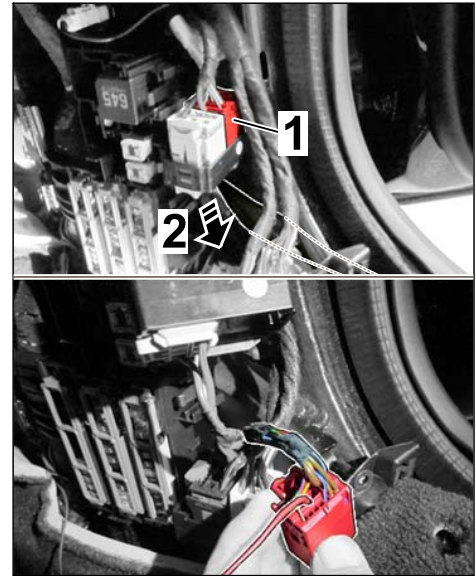

Figure 7
- 3.3 Plug power supply line - **red cable** - at the **red** connector housing connection point for the door wire harness on the connector side coming from the vehicle into ⇒ *Figure 7 -1-pin 16*. Release connector and guide pin into the connector housing until it locks with an audible click. Lock the connector again and connect it. Route cable on the wiring harness ⇒ *Figure 7-2-* down to the vehicle floor and secure it to the wiring harness using suitable adhesive tape/wrapping tape. **Do not use tie-wraps!**